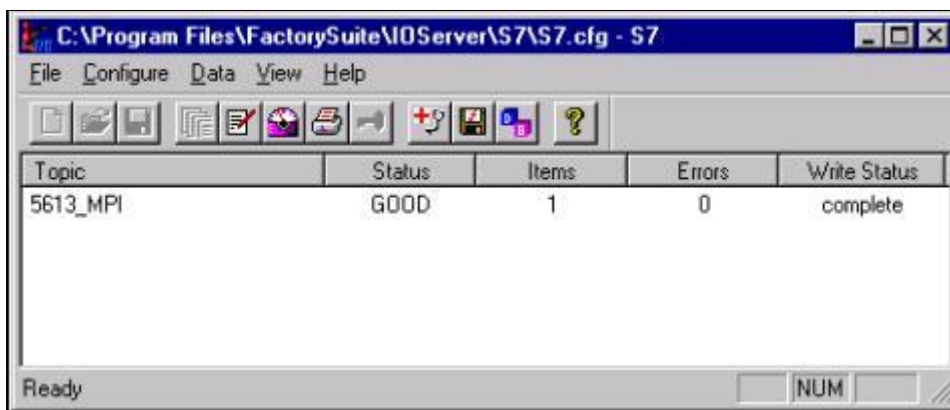

FIGURE 13: THE MPI COMMUNICATIONS THROUGH THE SIEMENS CP5613 CARD
- Figures 13 and 14 show an example of the S7 I/O Server and WWClient successfully advising item "MB90" from an S7-400 PLC, via the MPI protocol, based off the Siemens Simatic Net and WW S7 I/O Server settings configured throughout this Tech Note.